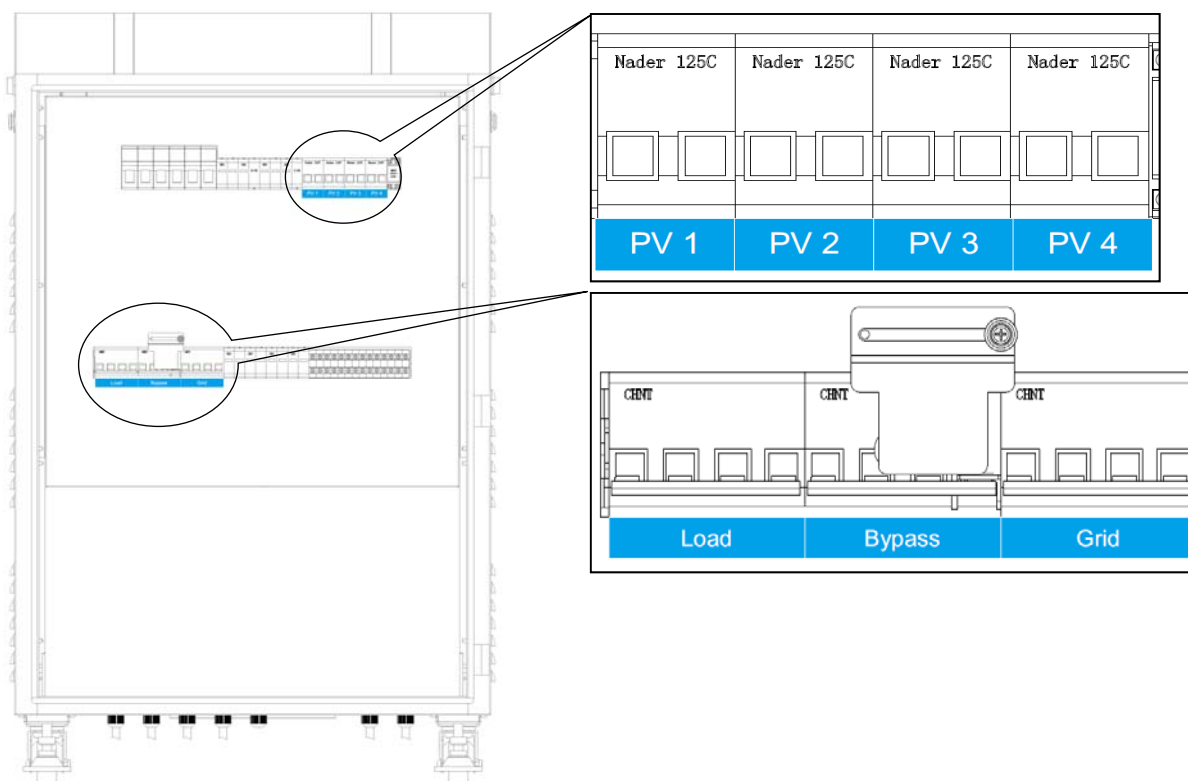

Fig 3.4 AC input/output and PV input breakers
2. Switch on the breaker marking “LOAD”, as shown Fig 3.4.